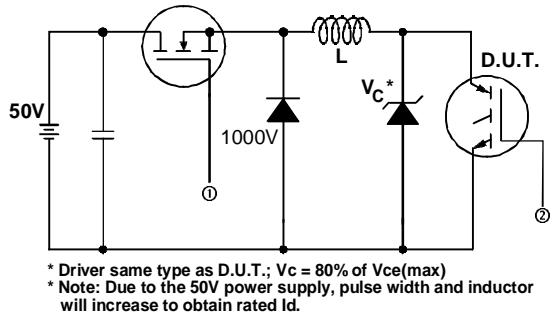

Fig. 13a - Clamped Inductive Load Test Circuit
- ② $V_{CC} = 80\%(V_{CES}), V_{GE} = 20V, L = 10\mu H, R_G = 50\Omega,$ (See fig. 13a)
- ③ Repetitive rating; pulse width limited by maximum junction temperature.
- ④ Pulse width $\leq 80\mu s$; duty factor $\leq 0.1\%$.
- ⑤ Pulse width $5.0\mu s$, single shot.